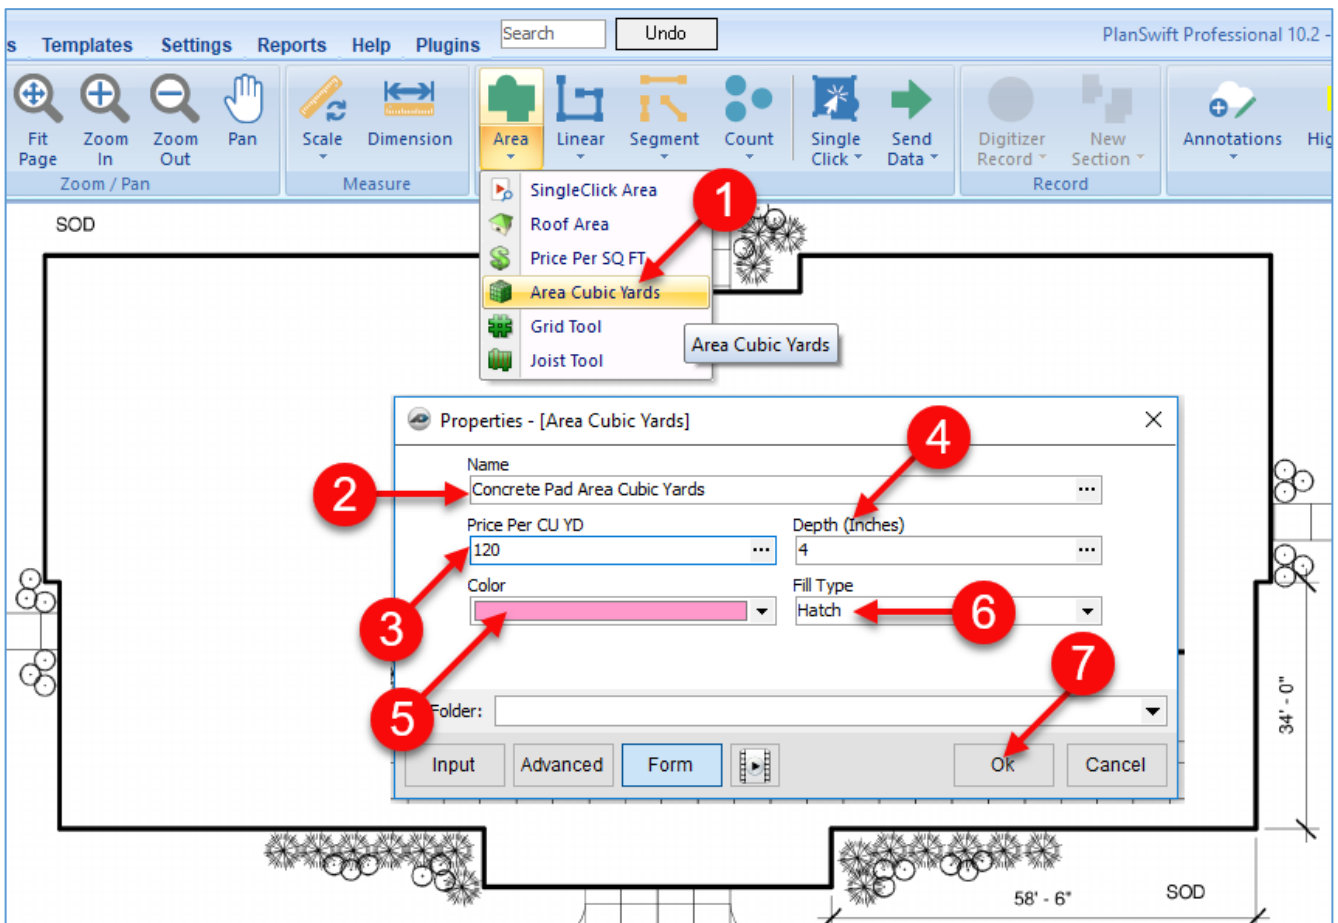

Figure 34-A
8. The **Digitizer Record** is now turned on. Perform the takeoff by clicking on all corners (inside and outside) of the concrete pad (Fig. 34-B).